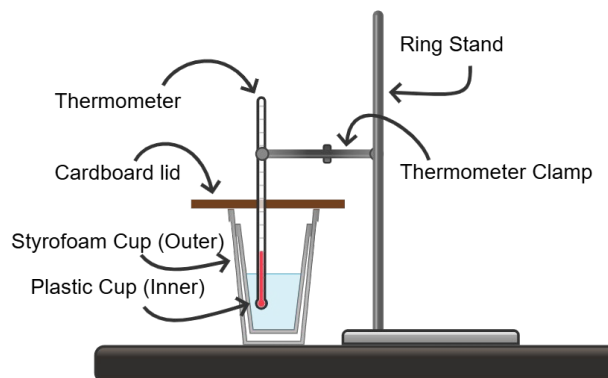

Figure 1. Calorimeter Setup
- ☐ Set up a calorimeter as shown in figure 1. A plastic cup is used inside a Styrofoam cup to provide an extra insulation layer, which slows down the transfer of heat between the cup and the surroundings.